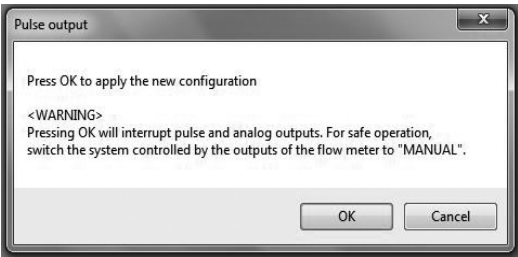

Fig. 3-37
- (3) Click "OK" after the setting is completed. Then the message box (Fig. 3-37) will be displayed. Click "OK" here to change the settings to the inputted values, and to reflect the changed setting values in the flowmeter's output. If the flowmeter's output is used to control valves or other such parts as safety protocol, change the control loop to manual control so that the control loop cannot be influenced by the flowmeter's output.